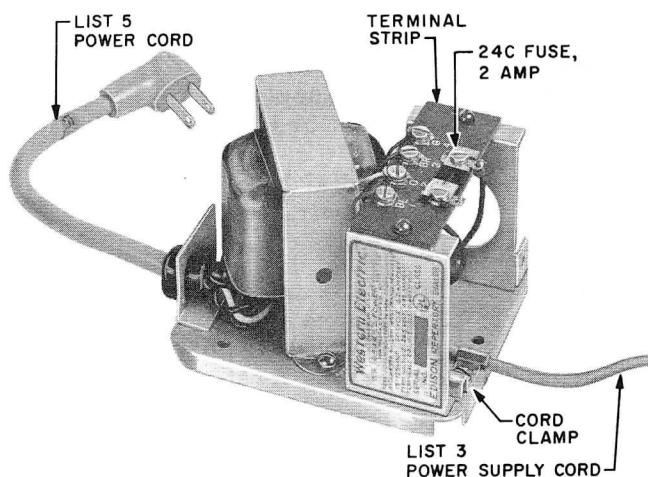

Fig. 4 - Power Supply (Cover Removed)
4.09 Power cord shall plug into a 115-volt ac receptacle not under control of a wall switch. The low voltage power supply consists of two voltages: 19.5 and 26.5 volts ac. Rapidual is protected by a 24C, 2-ampere fuse located on terminal strip in power supply (Fig. 4).